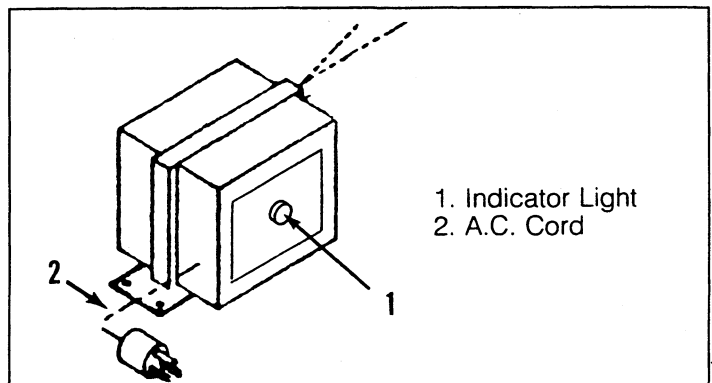

Figure 5-4. Battery Charger
- (2) Batteries and cables should be inspected periodically for signs of cracks in the cases, electrolyte leakage and corrosion of the terminals. Inspect cables for worn spots or breaks in the insulation and for broken cable terminals.
- (3) Clean batteries which show signs of corrosion at the terminals, or onto which electrolyte has overflowed during charging. Use a baking soda or ammonia solution to clean the batteries, taking care not to get the solution inside the cells. Rinse thoroughly with clear water. Clean battery and cable contact surfaces to a bright metal finish whenever a cable is removed.
b. Battery Charging (See Figure 5-4).
- (1) Charge batteries at end of each work shift or sooner if batteries have been discharged.